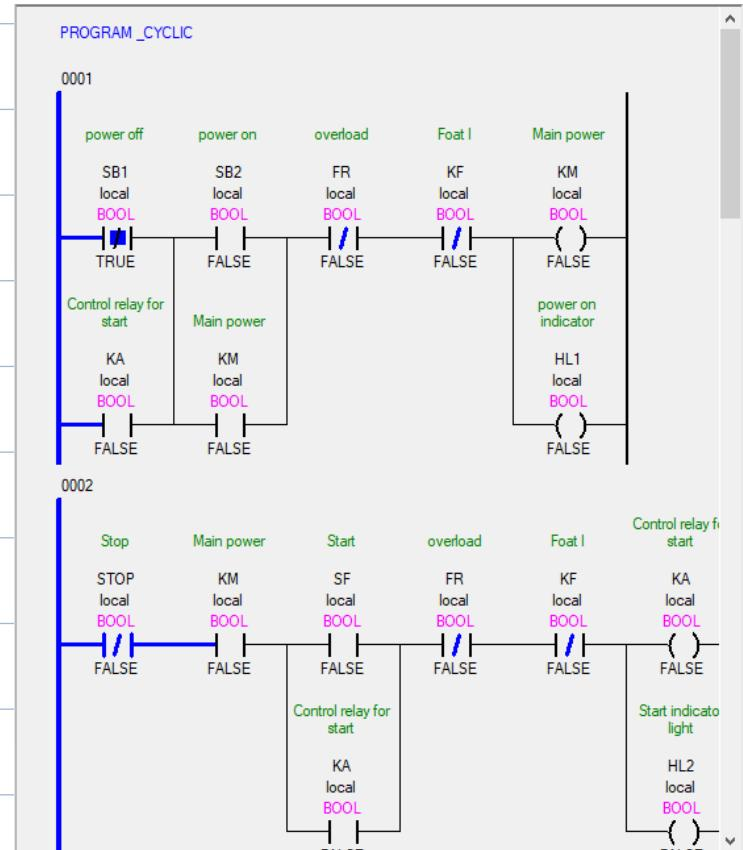

Fig. 8
④ To stop the system, first set STOP as TRUE, and then set SB1 (power off switch) as TRUE as shown in figure 8. The motor stops first and power supply is cut off.